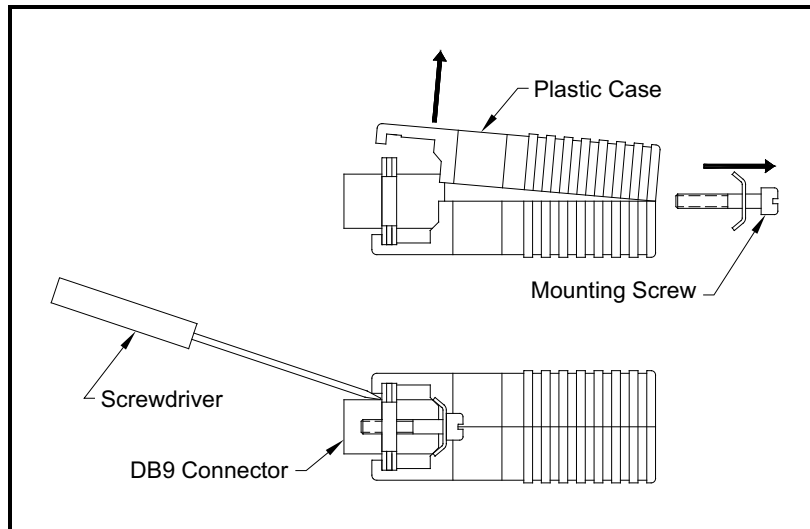

Figure 10: Opening the Converter Case
5. Use a small screwdriver to pry open the *plastic case* of the serial interface converter, as shown in Figure 10 on page 78.